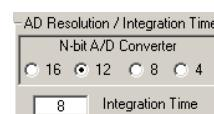

**FIGURE 11. OPTICAL SENSOR OPERATING MODE SELECTION**
- From the menu shown in Figure 11 on the left of the GUI, choose a specific device “Operation” in which you would like the device to operate. Detailed explanation of the operating modes can be found in the datasheets of the individual devices. Table 1 summarizes the different modes.